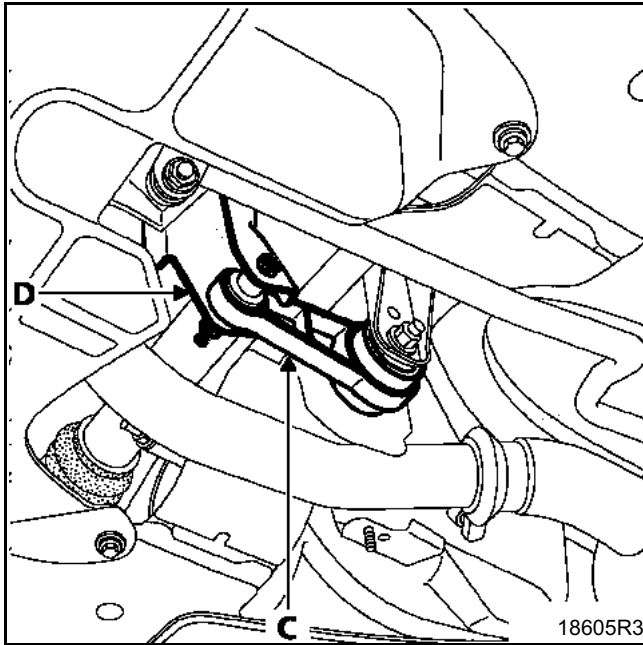
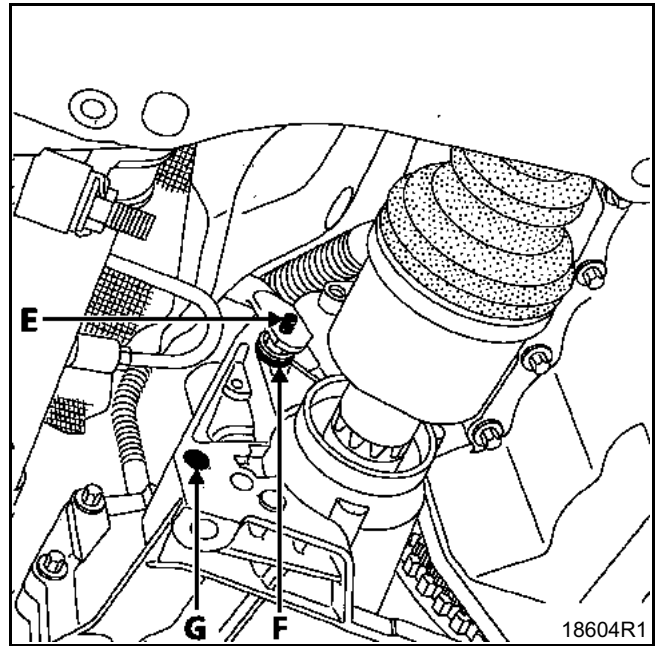

Fig. 2
Fig. 3
- Fit a torque reaction arm (C in Fig. 2).
– The mounting (D in Fig. 2) **Part Number.: 77 00 419 509**
– The torque reaction arm (C in Fig. 2)
- The catalytic converter flange mounting bolt (E in Fig. 3).
Replace the original 5 mm (F in Fig.3) with a 2 mm washer **Part number.: 77 03 053 075.**
– The mounting (D in Fig. 2) **Part number.: 77 00 419 509** by attaching it at the lower end (G in Fig. 3)
**Part number.: 77 03 101 175** and at the upper end to the catalytic converter flange mounting bolt (E in Fig. 3).
– The torque reaction arm (C in Fig. 2) **Part Number.: 77 00 415 095**